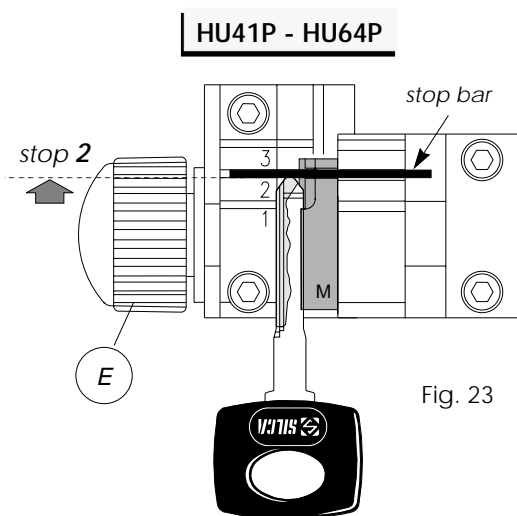

Fig. 23
- place the adapter on the left-hand jaw and align the notch with "stop 2" (Fig.23).